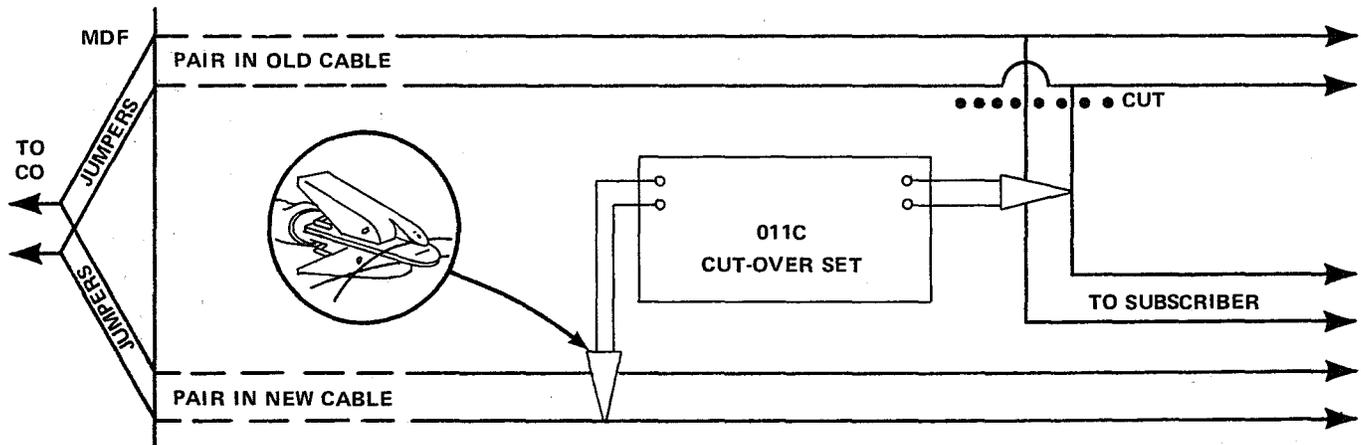

Fig. 3
1. Connect transfer clips at ends of the cords to the selected OLD pair and the corresponding NEW pair. Since both clips must be attached in the same polarity, connect the red jaw of each clip to the ring side of a pair. (See Fig. 3.)
lished in Step 3, connect the Cut-Over Set to a selected OLD pair or bridge and to the corresponding NEW pair. Make the connection to the OLD pair toward the subscriber from where the cut will be made. (See Fig. 3.) Be careful to observe polarity.